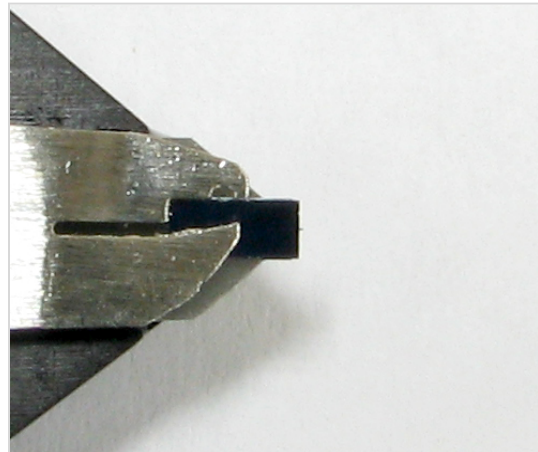

Figure 3.4.3 Proper probe position in the holder
- Using tweezers place the probe under the clip as shown on **fig. 3.4.3**.